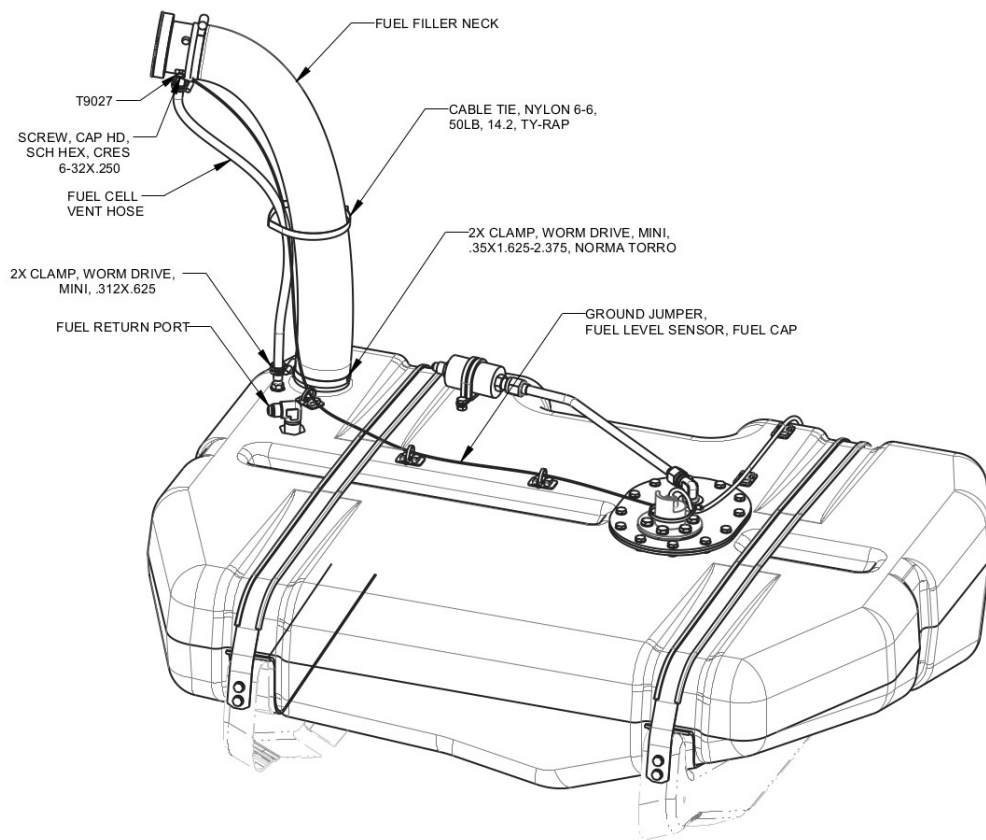

FIGURE 10-8
7. Install the bottom end of the filler neck onto the fuel tank opening flange so that there is a $.2" \pm .1"$ gap between the bottom face of the filler neck and the top face of the fuel tank. Attach the top end of the filler neck onto the fuel cap adapter. (See Figure 10-8.)
8. Secure both ends of the fuel filler neck using worm drive clamps. (See Figure 10-8.) Position the bottom hose clamp so that there is a $.4" \pm .1"$ gap between the bottom edge of the hose clamp and the top face of the fuel tank.
10. Connect fuel cell vent hose to hose barb in fuel cap adapter using the mini worm drive clamp. (See Figure 10-8.) Torque to 10-13 in-lb.
11. Connect fuel return line to the elbow fuel return port in the tank and torque to 110-130 in-lb with a 11/16 wrench. (See Figure 10-8.)
13. Secure T9027 ring terminal from ground wire on fuel tank subassembly to the filler cap adapter using #6-32 cap screw. Torque screw to 9 in-lb. (See Figure 10-8.)
14. Secure fuel filler neck, ground wire, and fuel vent hose with CABLE TIE, NYLON 6-6, 50 LB. (See Figure 10-8.)